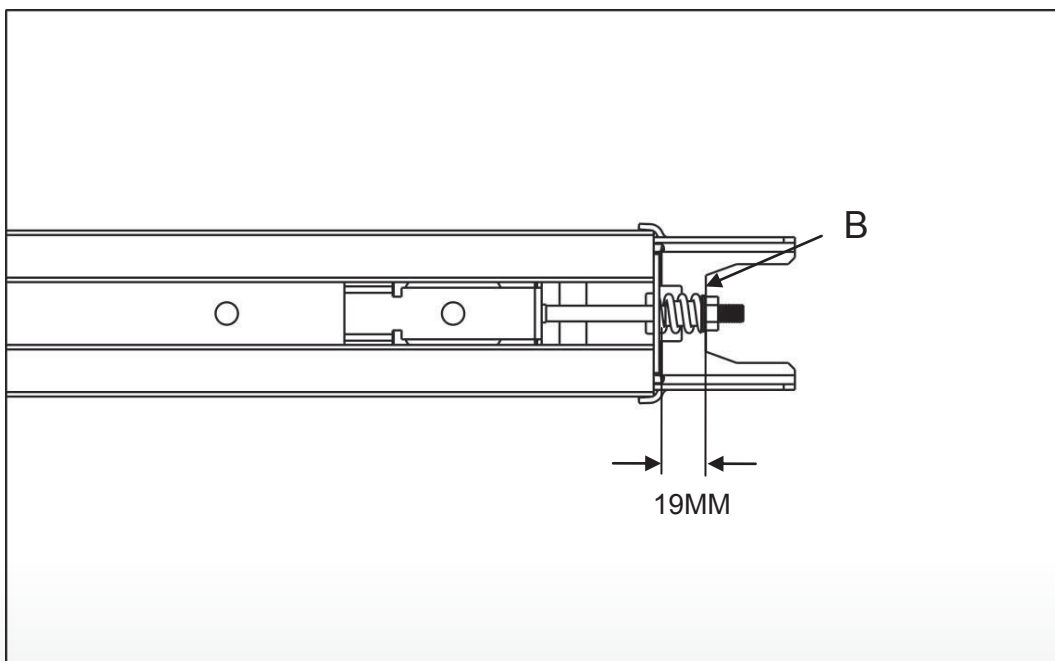

Fig. 14
6. Tight the nut to the right position as shown in Fig.14, cut the plastic cable tie on sprocket, then whole rail assembled finished.